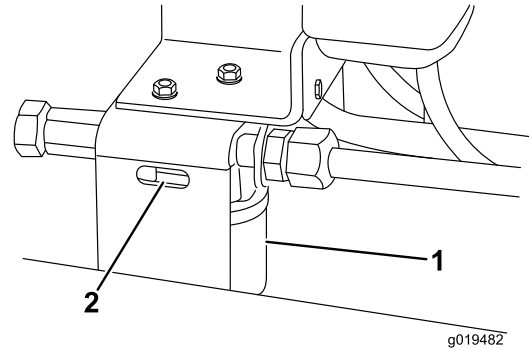

Figure 74
2. Clean the area around the filter mounting area. Place a drain pan under the filter and remove the filter (Figure 74).